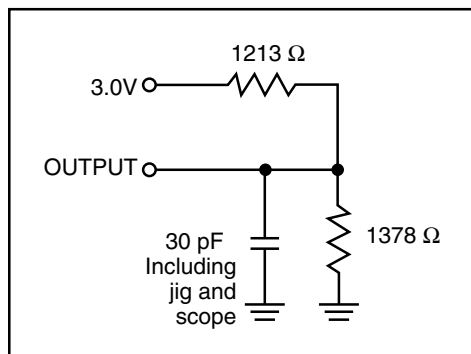

Figure 1.
1. Test conditions assume signal transition times of 5 ns or less, timing reference levels of 1.3V, input pulse levels of 0.4V to 2.2V and output loading specified in Figure 1.
Output Load	See Figures 1 and 2